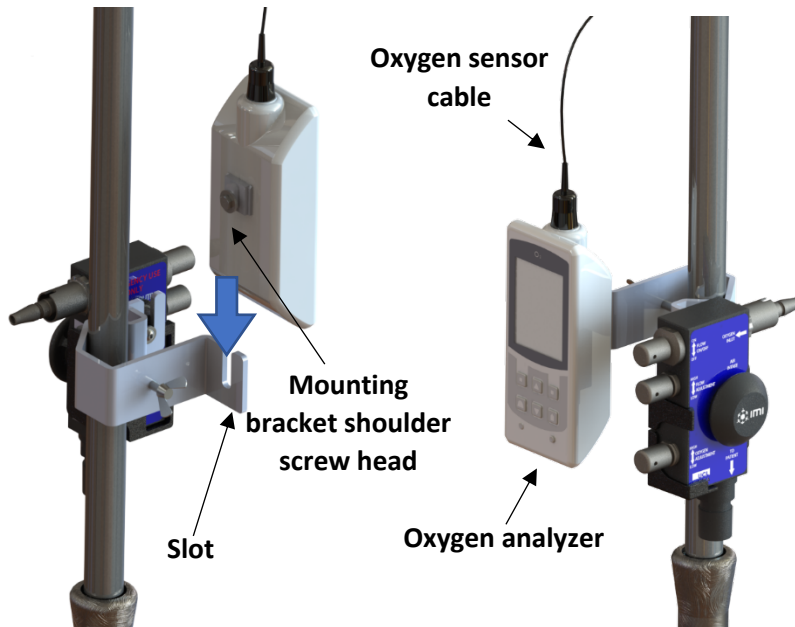

Fig. 8. Oxygen analyzer mounting
- Mount the oxygen analyzer onto the IV pole clamp by sliding the mounting bracket shoulder screw head into the slot as shown in Fig. 8. Plug the oxygen analyzer to a power source and power on. The oxygen analyzer may be operated with its internal battery. Refer to the oxygen analyzer user manual included in the kit. The set-up should have the oxygen analyzer display and **UCL Ventura** control knobs accessible.